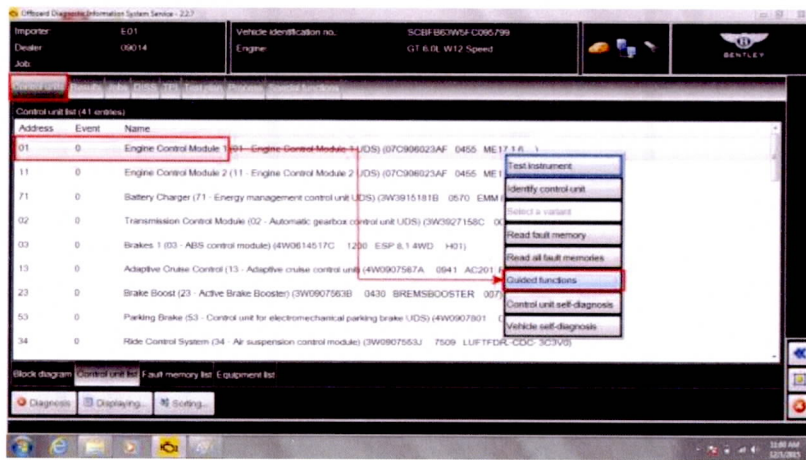

Figure 12
1. Within Control units – Select (single touch) *01 Engine Control Module* – Reveal drop down menu (extended touch and release), Select *Guided functions* (see Figure 12)